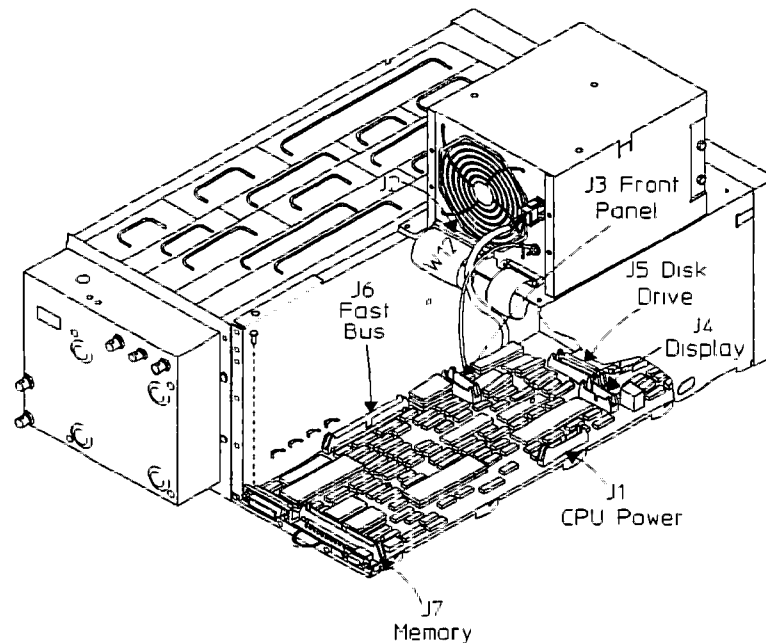

Figure 4-6. Cable Locations
2. Disconnect the display cable (W3), front-panel cable (W5), and fast bus cable (W11) from J4, J3 and J6 on the CPU assembly. Disconnect the motherboard power cable (W12) from J2 on the Power Supply assembly (see figure 4-6).